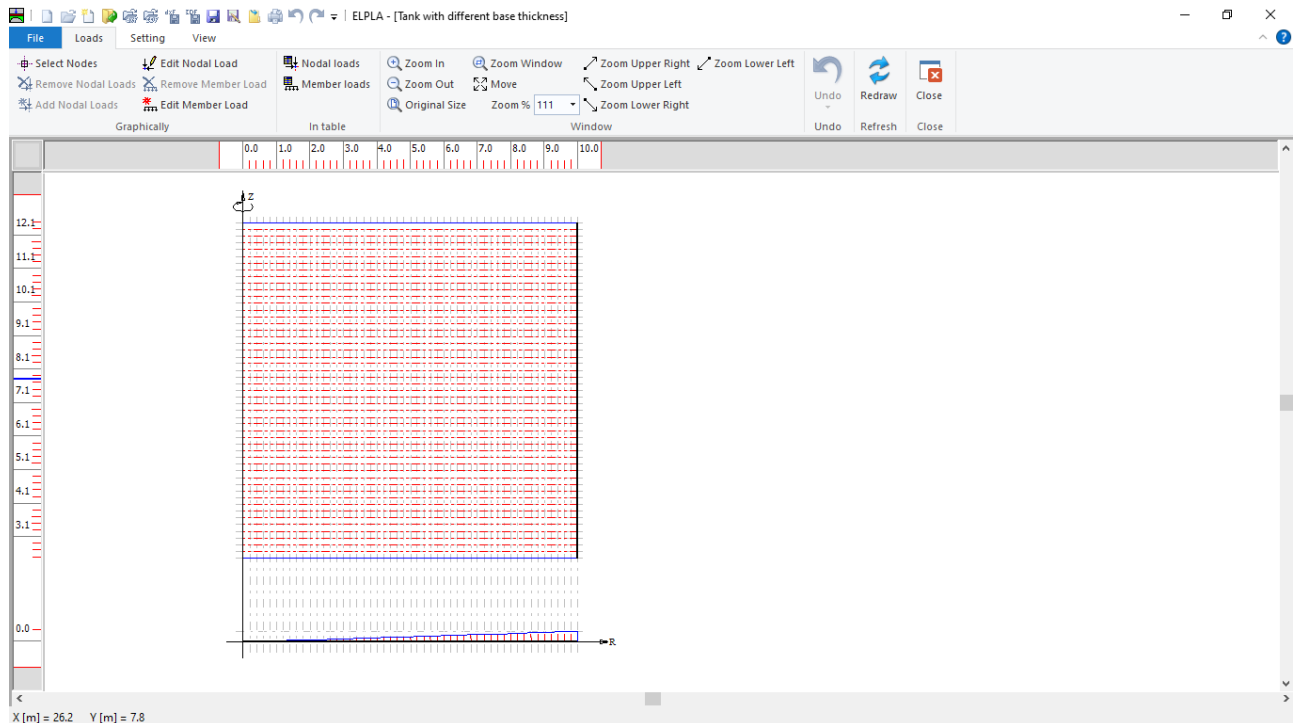

Figure 9.20 "Loads" Window
To define the loads, choose "Loads" command from "Data" Tab. The following window in Figure 9.20 appears. In *ELPLA*, entering loads may be carried out either numerically (in a table) or graphically using the commands of "Loads" Tab in Figure 9.20. In this example, there is not applied load, as the vertical load has been already defined by the unit weight of the tank, while the hydrostatic pressure on the tank wall is defined by the unit weight of water.
- Choose "Save" command from "File" menu in Figure 9.20 to save the load data
- Choose "Close" command from "File" menu in Figure 9.20 to close the "Loads" window and return to *ELPLA* main window